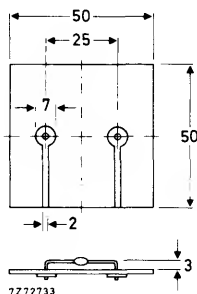

Fig. 2 Mounted on a printed-circuit board.
2. Thermal resistance from junction to ambient when mounted on a 1,5 mm thick epoxy-glass printed-circuit board; Cu-thickness $\geq 40\ \mu\text{m}$; Fig. 2